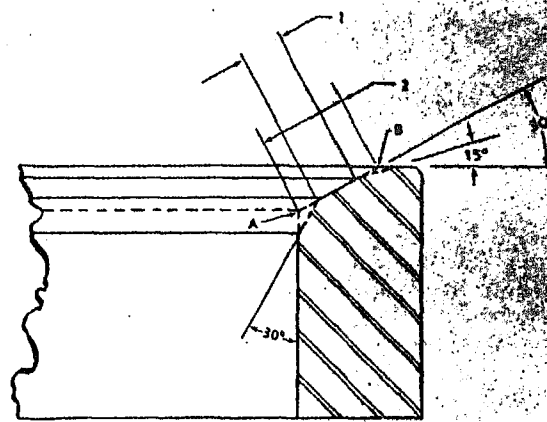

Fig. 2-1-7. Valve seat insert cross-section
3. If seat area width (2, Fig. 2-1-7) exceeds 0.125 in. [3.175 mm] at any point (see A to B), and cannot be narrowed sufficiently it is unlikely that seat can be successfully reground. See GRIND VALVE SEATS, Group 2.